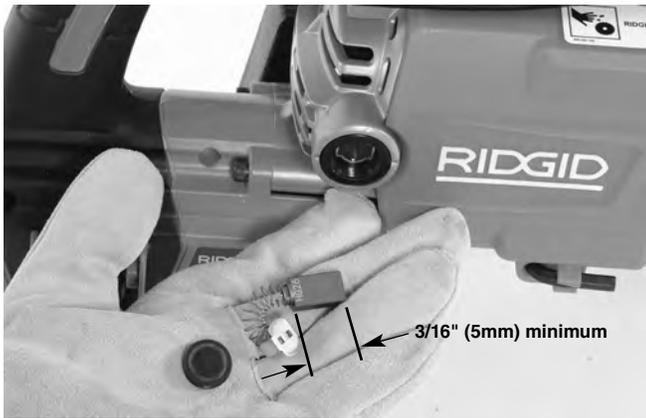

Figure 22 – Changing Brushes
2. Remove brushes noting orientation. Inspect brushes. Replace when worn to less than $\frac{3}{16}$ " (5 mm). See Figure 22. Inspect the commutator for wear. If excessively worn, have machine serviced. Clean the brush holders with a clean cloth.